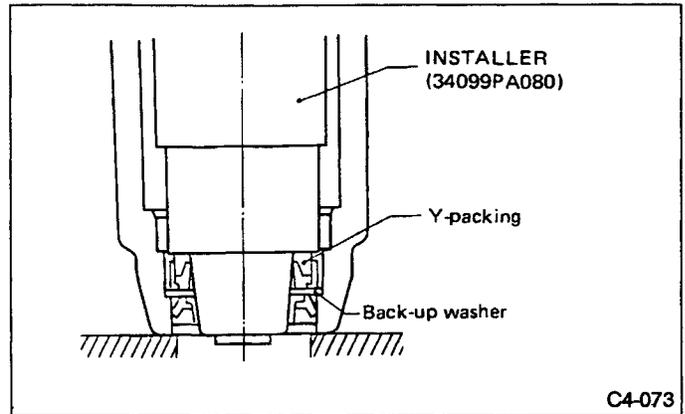

Fig. 127
(3) Using INSTALLER and press, install Y-packing and back-up washer in valve housing.
- a. Face Y-packing in the direction shown in Figure 127 when installing.